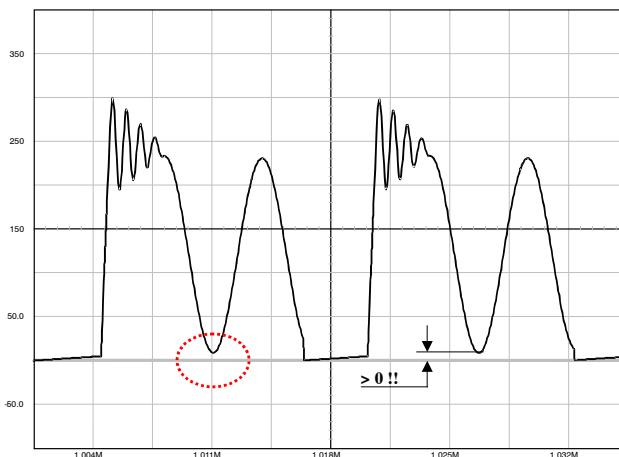

Figure 46. The Drain-source Wave Shall always be Positive
1. The lateral MOSFET body–diode shall never be forward biased, either during start–up (because of a large leakage inductance) or in normal operation as shown in Figure 46. This condition sets the maximum voltage that can be reflected during toff. As a result, the Flyback voltage which is reflected on the drain at the switch opening cannot be larger than the input voltage. When selecting components, you thus must adopt a turn ratio which adheres to the following equation:
Figure 48a: the simple capacitor limits the voltage according to the lateral MOSFET body–diode shall never be forward biased, either during start–up (because of a large leakage inductance) or in normal operation as shown by Figure 46. This condition sets the maximum voltage that can be reflected during t_{off} . As a result, the flyback voltage which is reflected on the drain at the switch opening cannot be larger than the input voltage. When selecting components, you must adopt a turn ratio which adheres to the following Equation 3. This option is only valid for low power applications, e.g. below 5 W, otherwise chances exist to destroy the MOSFET. After evaluating the leakage inductance, you can compute C with (Equation 4). Typical values are between 100 pF and up to 470 pF. Large capacitors increase capacitive losses...